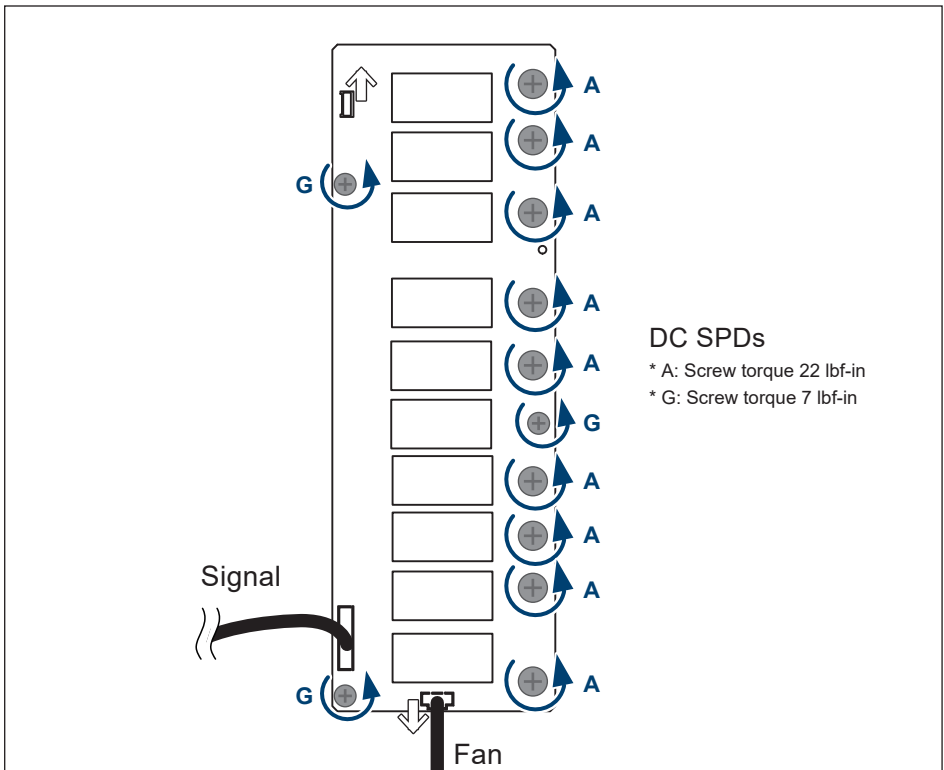

Figure 5-7: Remove wirings as connectors of DC SPD
2. Remove signal and fan wiring connectors from the DC SPD. (**Figure 5-7**)
3. Loosen 9 self-retaining screws (**Figure 5-7 screw A**).
4. Loosen 3 self-retaining screws (**Figure 5-7 screw G**).
Tighten the 12 screws to a torque value shown in **Figure 5-7**.